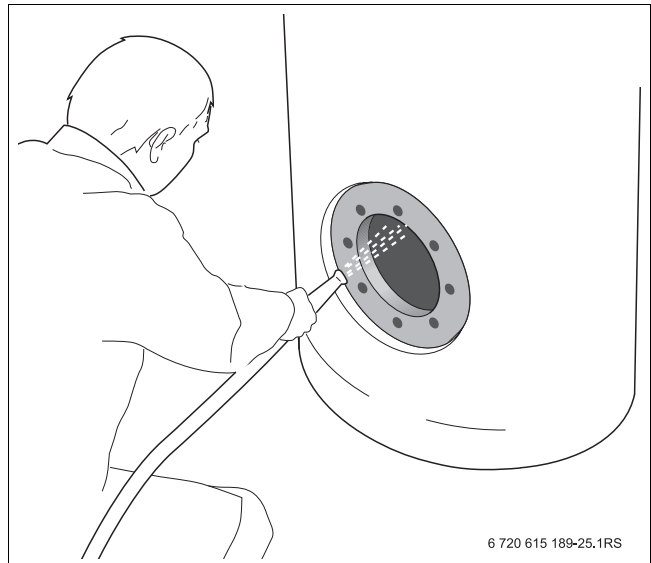

Fig. 20 Hosing down the interior of the DHW tank
- ▶ Hose down the inside of the DHW tank with a "high pressure" (approx. 58 – 72.5 psi (4 – 5 bar) gauge pressure) stream of cold water (→ Fig. 20, page 16).